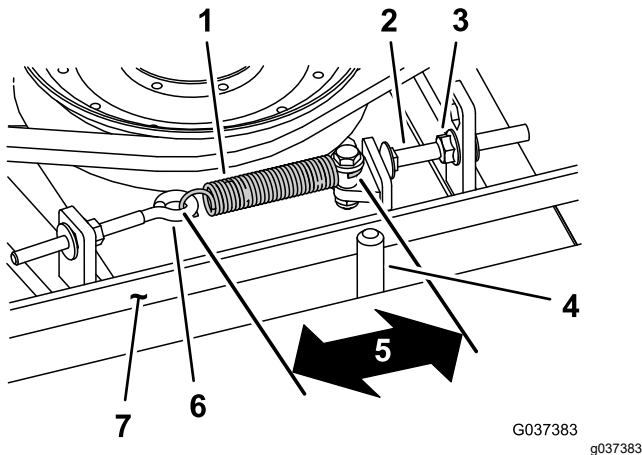

Figure 113
When properly tensioned, the inside measurement of the extension spring (hook to hook) should be approximately 8.3 to 9.5 cm (3-1/4 to 3-3/4 inches). Once the correct spring tension is attained, adjust the stop bolt (carriage bolt) until there is approximately 2 to 5 mm (0.065 to 0.185 inch) clearance between the head of the bolt and the idler arm (Figure 113).
Note: Ensure that the belt is positioned on the spring side of the belt guide (Figure 113).
2. Loosen the eye bolt allowing the removal of the extension spring (Figure 113).
3. Loosen the flange nut securing the stop bolt to the mounting tab and move the idler pulley away from the belt to release the belt tension (Figure 113).
9. Connect the extension spring (Figure 113) to the eye bolt and tension the belt as follows: